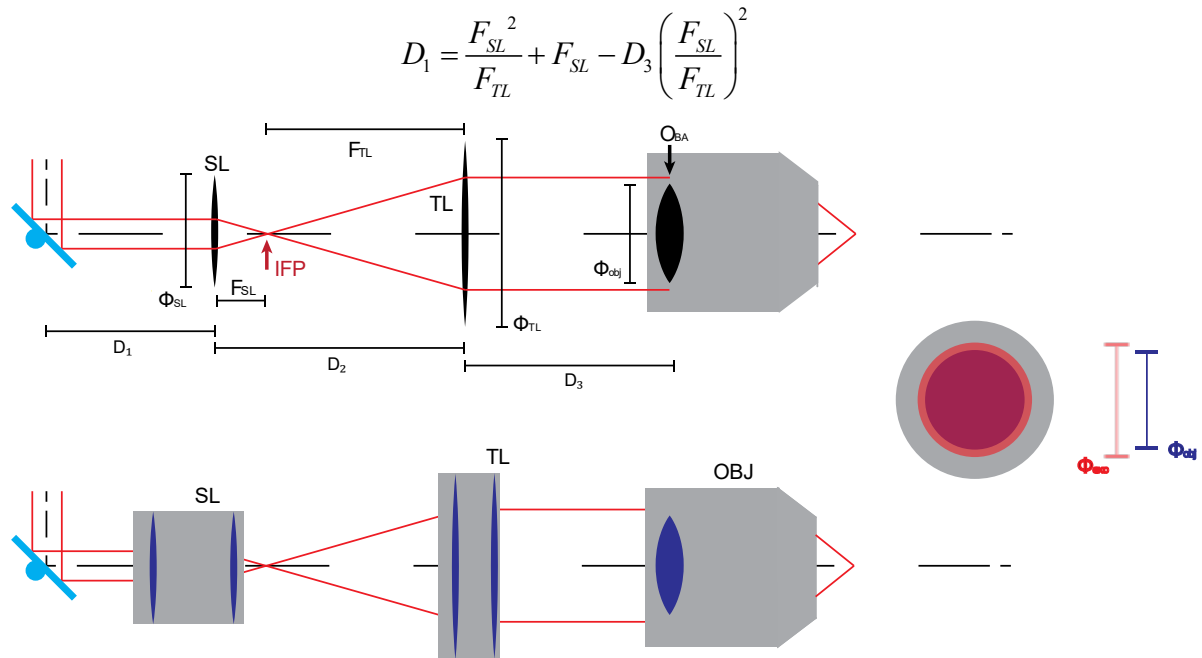

Figure 3. DL configuration. Ideal lenses approximation (top), objective back aperture overfilling (left) and typical configuration with stacked lenses (down).
5. Check objective's back aperture (O_{BA}) filling factor ($\emptyset_{exc}/\emptyset_{obj}$). To do so, turn on a regular scan mode at "high zoom" (i.e. with minimal movement of scan mirrors) without the objective in place. Use a laser viewing card in the position where the objective's back aperture would be to assess the setup's fill factor (i.e. the size of the laser spot relative to the objective's back aperture) (Fig. 3, 4). Alternatively, if your laser supports an alignment mode at a visible wavelength (typically low 700s of nm) you can also do this procedure with a piece of paper in place of the laser viewing card.